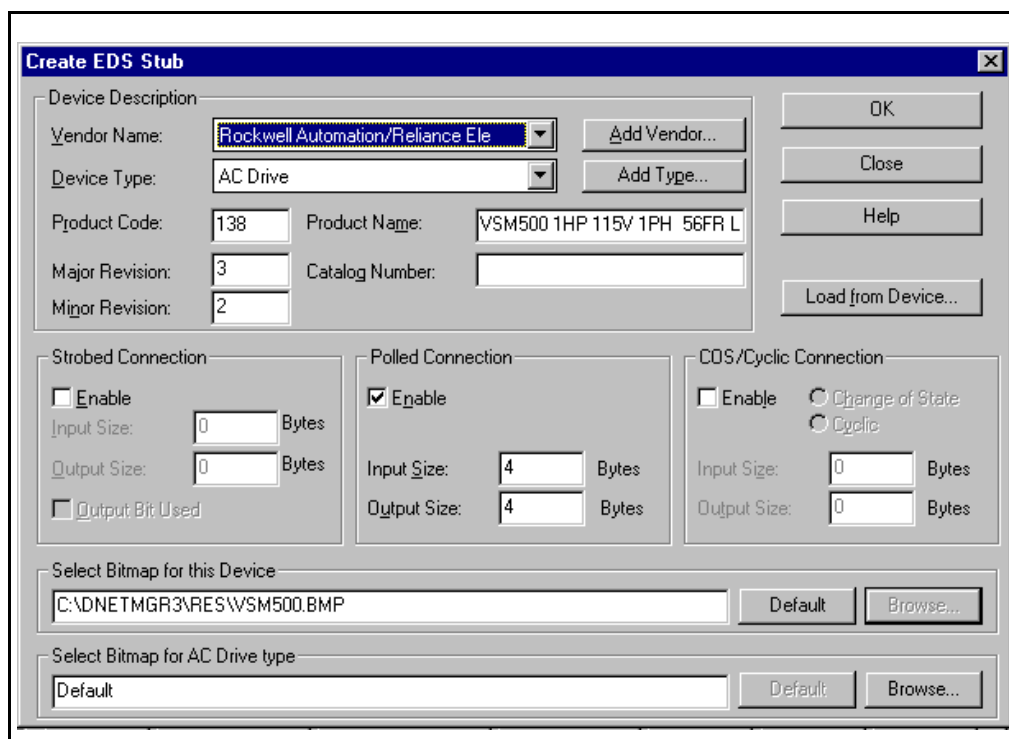

Figure 3.4 – Create EDS Stub Dialog Box
Step 5. Under Select Bitmap for this Device in the Create EDS Stub dialog box (see figure 3.4), click **Browse**. An Open dialog box appears.